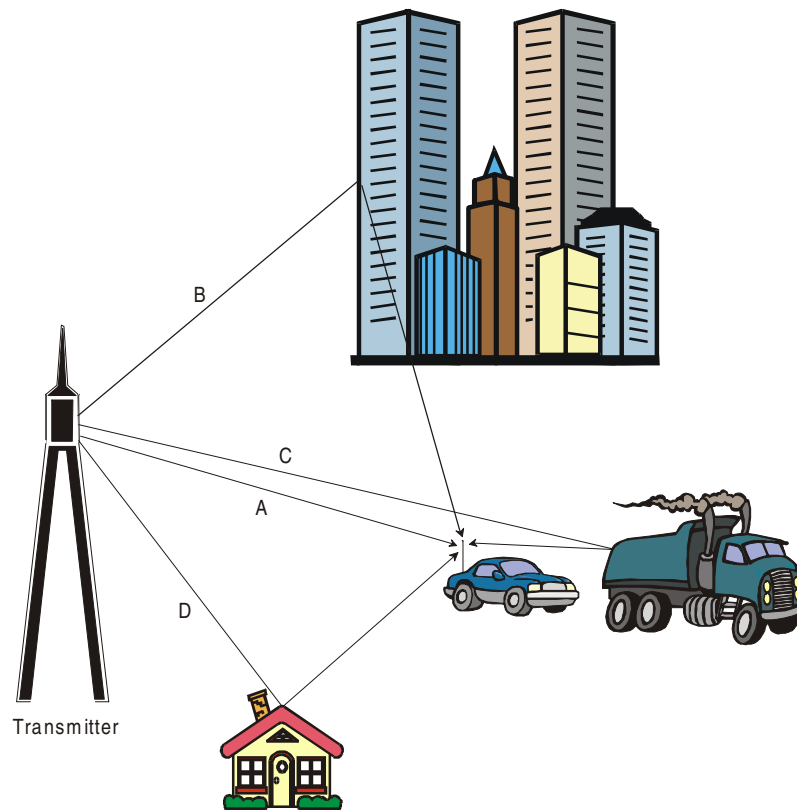

Figure 4-13. Transmitter to Receiver Signal Diagram
Relative path delay is a phenomenon where individual signal paths from the transmitter to the receiver arrive at different times. An example of this is shown in Figure 4-13 between Paths (A) and (C). Path (C) will arrive at the receiver (the automobile) a finite time after signal Path (A). The net effect of the arrival time difference is to spread the signal in time. In a digital system this will cause received symbols to overlap resulting in inter-symbol interference.
Relative path loss is a phenomenon where individual signal paths arriving at the receiver are at different absolute power levels. The difference in power levels between paths is caused by the physical obstructions in the signal path. Referring to Paths (A) and (C) in Figure 4-13, Path (C) will arrive at a lower power level than Path (A). This occurs since some amount of the power in signal Path (C) is lost when it reflects off the truck. Signal strength will also vary due to the distance the signal travels. The loss of signal strength should follow the $1/d^2$ law, where d is the distance between the transmitter and the receiver. In the actual cellular environment the loss is much worse, (between $1/d^3$ to $1/d^6$), due mainly to variations in the terrain.